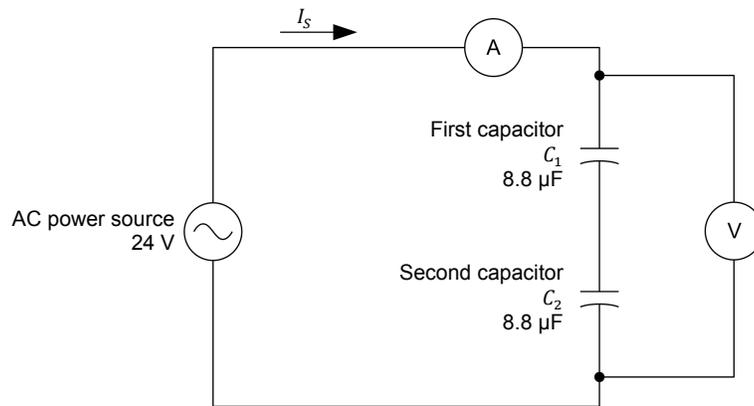

Figure 23. AC power source connected to two series capacitors.
31. Connect the circuit shown in Figure 23. Use both 8.8  $\mu\text{F}$  capacitors to implement the series capacitors.